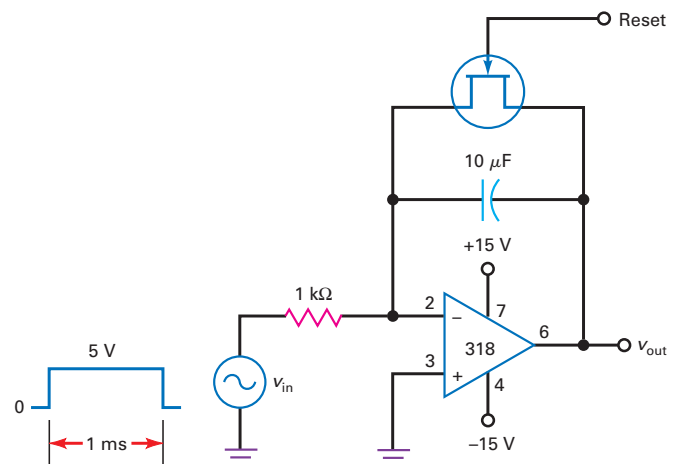

Figure 36-42 Note: The JFET shorts out and discharges the capacitor, resetting the integrator when a positive voltage is applied to the gate.
- 36.10 What is the capacitor charging current in Fig. 36-42 when the input pulse is high?
36.11 In Fig. 36-42, the output voltage is reset just before the pulse begins. What is the output voltage at the end of the pulse?